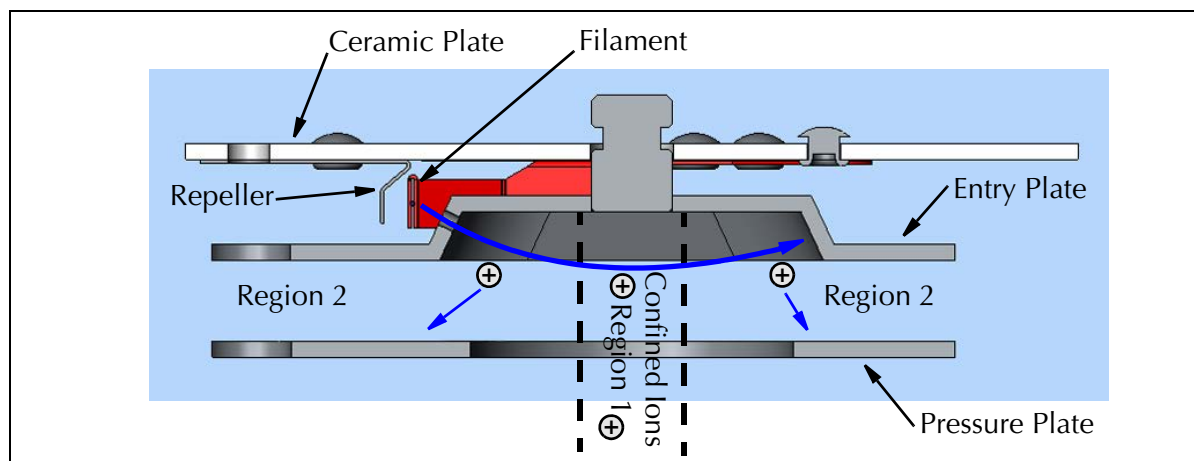

Figure 6-12 VQM MS Gauge Ionizer
Figure 6-12 illustrates a cross section of the ionization region within the ion trap electrode assembly. The blue arrow traces the ionization path of an off-axis electron beam and defines two regions where ions are created between the entry plate and entry cup. Ions formed in the region close to the axis of the trap (Region 1) are confined into oscillatory motion and contribute to the mass spectrometer signal. Ions formed away from the axis (Region 2) are directed towards the pressure plate and do not contribute to the mass spectrum since they are neutralized on impact. Continuous ionization means that ions are continuously added to the oscillating beam, replacing ions lost to (1) collisions, (2) electrostatic repulsion, and (3) autoresonant ejection. The rate of ion formation inside the trap is directly related to the electron emission current and the pressure inside the trap. Off-axis electron beam geometry provides high quality mass spectra without significant baseline offset contribution.